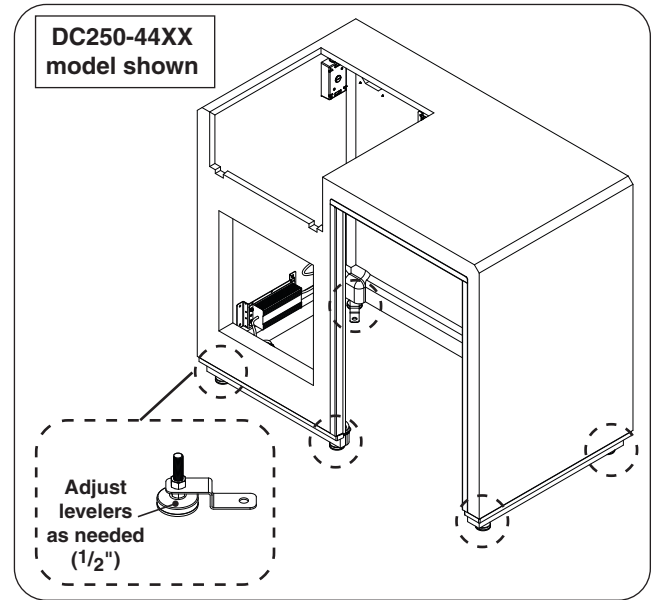

Fig. 8-1 Place and level island
1. **CAREFULLY** place the island in an appropriate location (see Fig. 8-1, and refer back to the LOCATION section if needed).
2. Use the level to ensure the top surface of the island is level. The 5 levelers at the bottom of the island may be adjusted as needed with a $\frac{1}{2}$ " open end wrench (see Fig. 8-1).